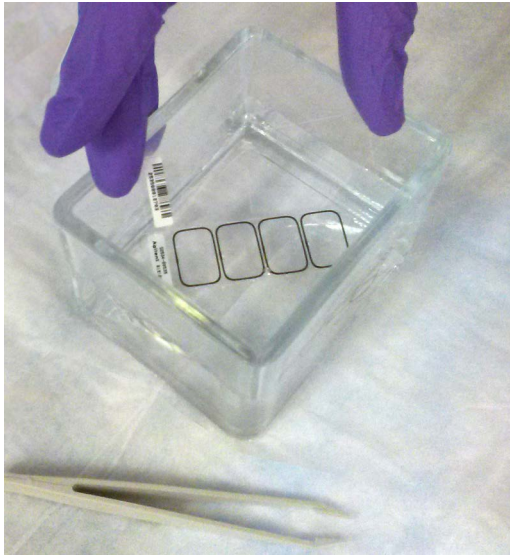

Figure 22 Removal of the microarray slide from staining dish #1
- 8 With the sandwich completely submerged in GenetiSure Dx Wash Buffer 1, pry the sandwich open from the barcode end only. Do this by slipping one of the blunt ends of the forceps between the slides and then gently twist the forceps to separate the slides. Let the gasket slide drop to the bottom of the staining dish (see Figure 22). Remove the microarray slide, grasp it from the upper corners with thumb and forefinger, and quickly put into the slide rack in the slide-staining dish #2 containing GenetiSure Dx Wash Buffer 1 at room temperature.